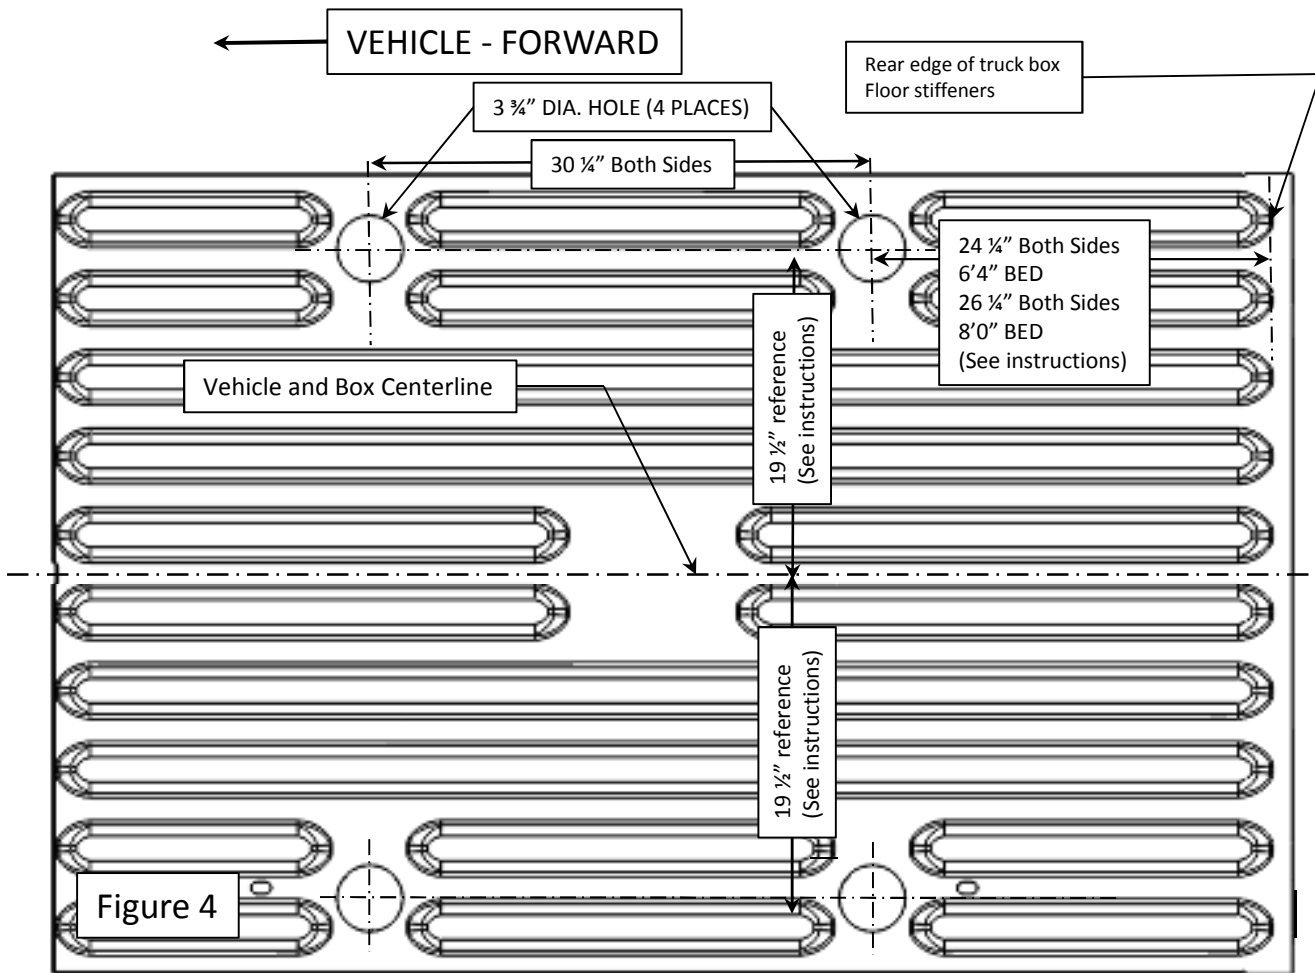

Figure 4
- 14) From inside the box, mark the centerline of the box. Use chalk or some other temporary marking method. For 6'4" beds Measure and mark a spot 24 ¼" (616mm) forward of the rearmost edge of the truck box floor stiffeners. For 8'0" truck beds, measure 26 ¼" (667mm) forward of the rearmost edge of the truck box floor stiffeners Strike an additional line 90 degrees to the spot marked. (See Fig. 4)
- 15) Measure outward in both directions, along the line you marked in the previous step, 19 ½" (495mm). You should have two targets marked (See Fig. 4)
- 17) From inside the box, using the previously marked centerline of the box, mark a spot 30 ¼" (768mm) forward of the line used for the rear 5th wheel mounts in ¼" pilot holes drilled. Strike an additional line 90° (degrees) to the spot marked.(See Fig.4)
- 18) Measure outward in both directions, along the line you marked in the previous step, 19 ½" (495mm). You should have four targets marked (See Fig. 4)
CHECK YOUR WORK! From the top of the bed, verify that the ¼" holes match the dimensions and appearance of Fig. 4. THIS IS YOUR LAST CHANCE to make adjustments before drilling the large 3 1/2" holes in your truck bed.
- 20) Drill four (2 lh & 2 rh) 3 1/2" holes using a hole saw. Use the ¼" pilot hole as a guide (Fig.4)